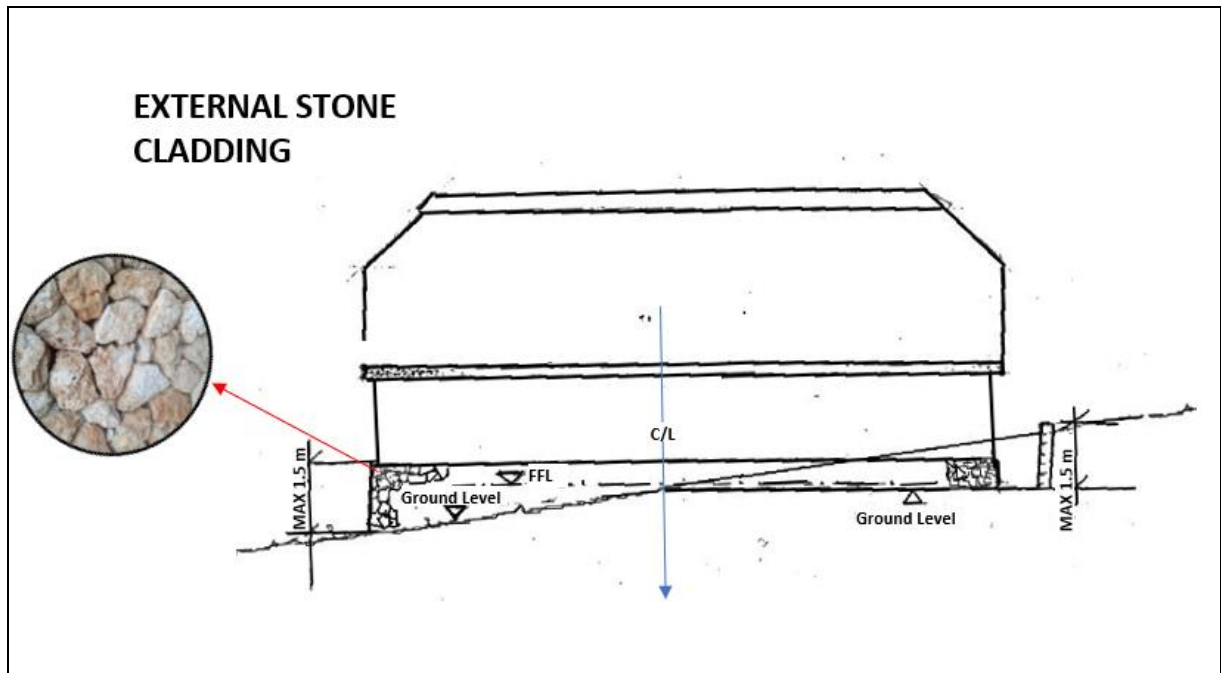

Figure 4: Stone walling
- 6.5.1.3 External stone cladding, if chosen, to be randomly shaped from local natural sandstone to a maximum of 1.5m above natural ground level, as illustrated in Figure 4.